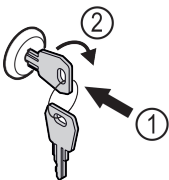

Fig. 96 Example illustration
- ▶ Insert key Fig. 96 (1).
- ▶ Turn key clockwise by 90° Fig. 96 (2).